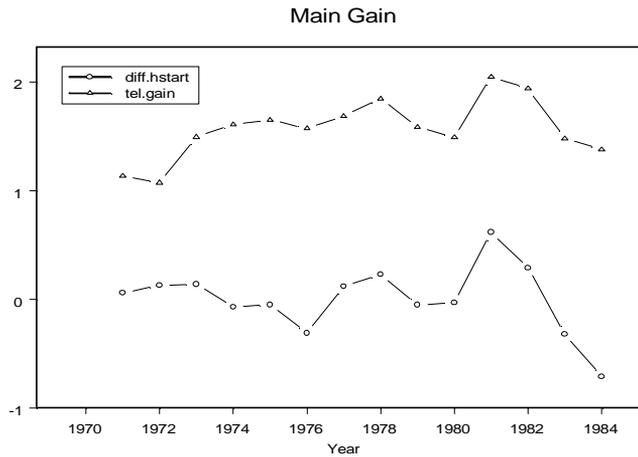

Figure 3.28: Yearly time series plot of tel.gain and diff.hstart.
5. Click the **Isolated Points** button  on the **Plots 2D** palette. The resulting plot is shown in Figure 3.28.